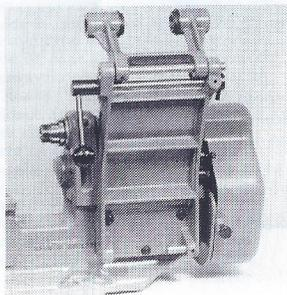

Fig. 4
a Mount the countershaft arm/swing head assembly (1) on the back of the Lathe bed, using the three ¼" dia. x 1½" long B.S.F. screws and washers which are provided. See Fig. 4. Lightly tighten the screws only at this stage.